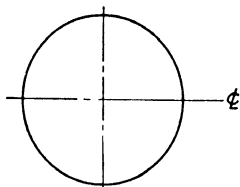

Fig. 60a.
5. Estimate the circumference of the circle in Fig. 60a. Calculate the exact length after measuring the diameter. How close was your estimate?